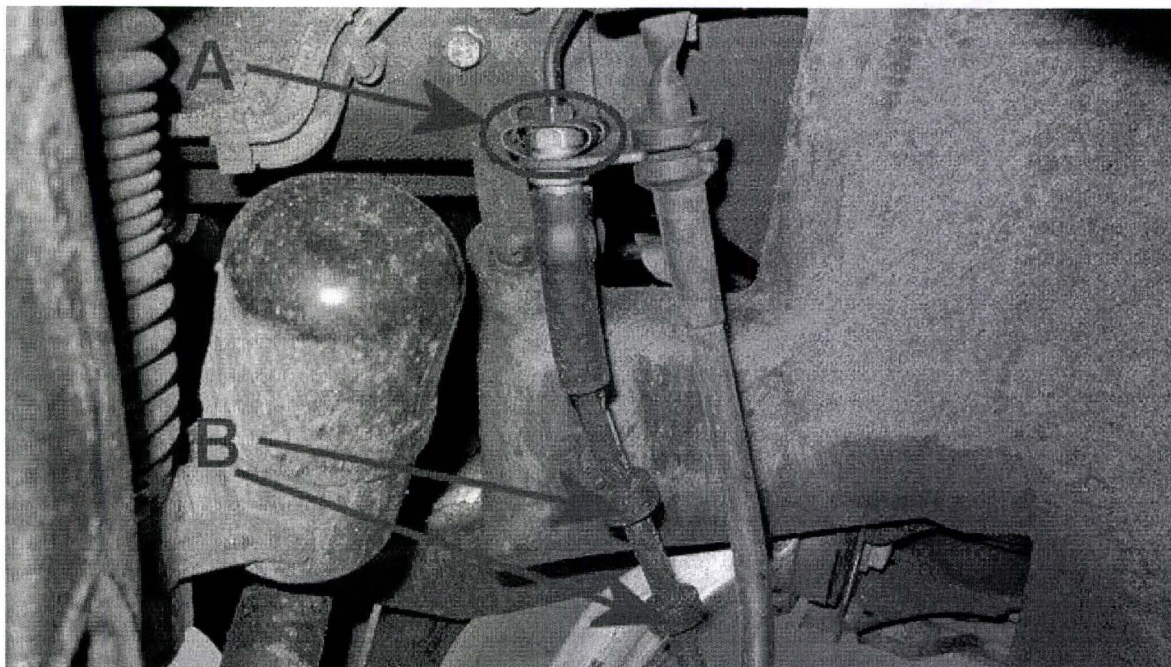

Figure 3
2. Referring to Figure 3 - Fit the new flexible brake hose with a new retaining clip (Point A) **CAUTION:** The pipe will only locate into the bracket one way only, to clarify correct orientation the two fixed rubber protective doughnuts will be